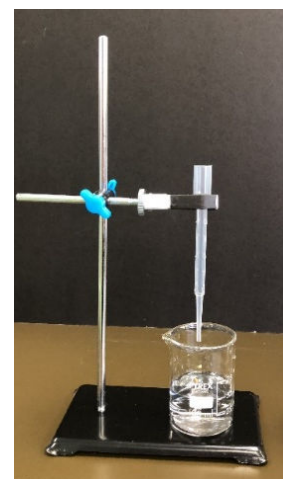

Figure 1
5. Assemble the set up shown in *Figure 1*.